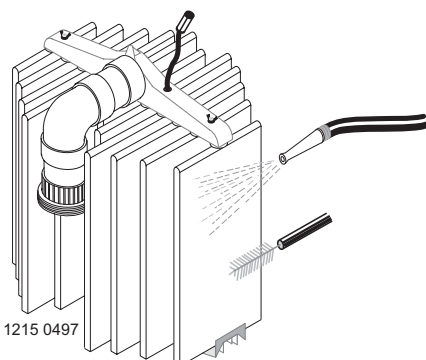

FIGURE 7
5. Hose down element assembly and clean with bottle brush (Figure 7). Use detergent solution or filter cleanser available from a pool service store.